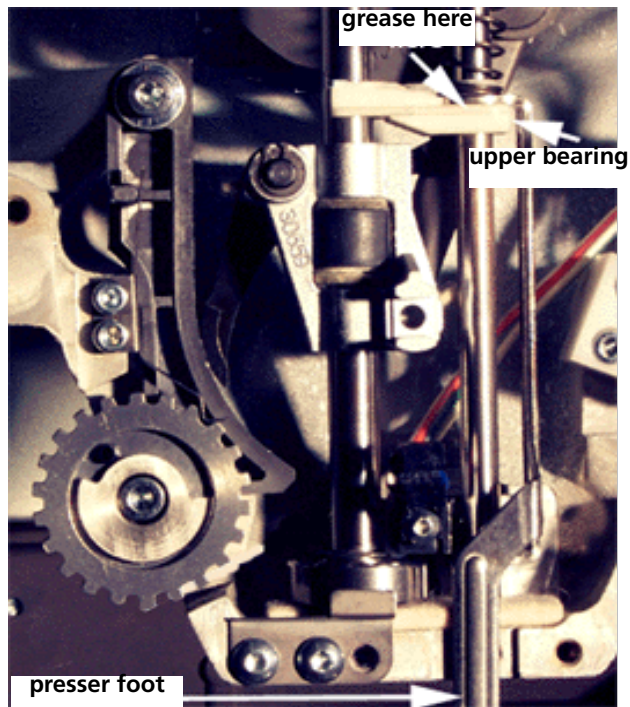

Figure 7-21
3. Please note that your view when lubricating this point will be different than the view in *Figure 7-21*; for illustration purposes, the figure reflects a front view without a needlecase, while you will be looking at the machine from the right side of the needlecase.